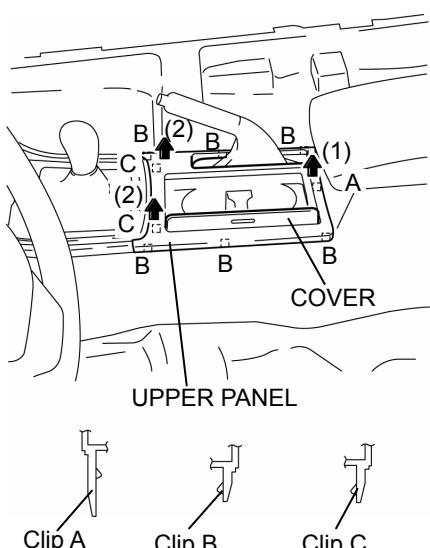

FIGURE 2
2. Remove the upper panel. (refer to Figure 2 and 3)
- A. Pull the upper panel in the direction of the arrow in the order of (1) and (2), then remove it while detecting clip A (1 location), clips B (6 locations) and clips C (2 locations).